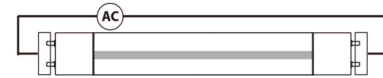
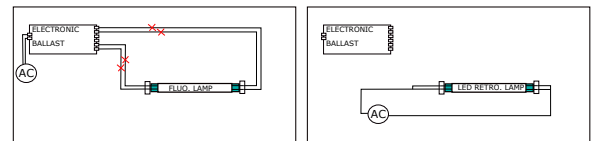

Figure 1. - Double-Ended connection
Figure 2. - Retrofit with One Lamp
6. LED T5 lamps are designed for double-ended connections only (Figure 1). Wire using appropriate wiring diagram (Figure 2, 3, 4).